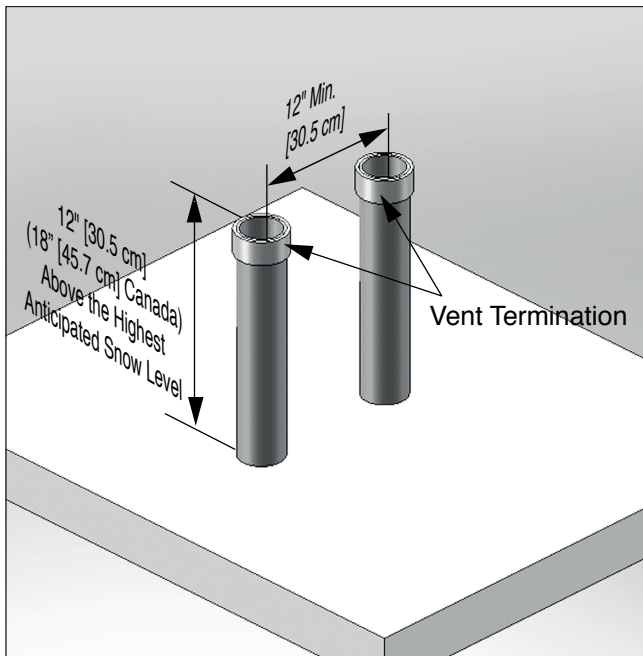
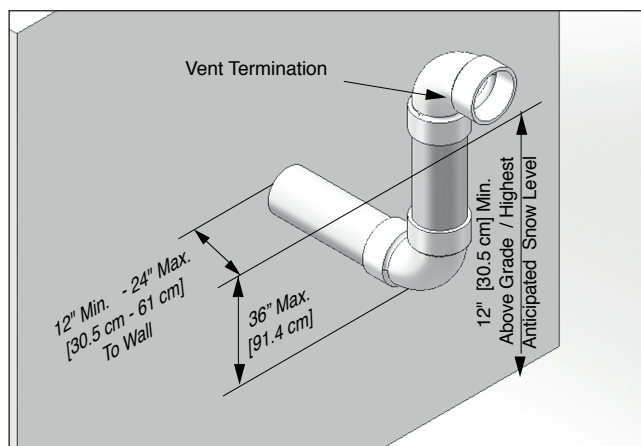

Fig. 17 - Category IV- Vertical Termination of Multiple INSTINCT Boilers
Fig. 19 - Category IV - Sidewall Snorkel Termination of Vent Pipe
2. Each vent termination must be a minimum 12" [30.5 cm] from the adjacent termination for installations in the U.S. as shown in *Fig. 17 below*. For installations in Canada, provide clearances as required by CAN/CSA B149.1.
- Using a 90° elbow as shown in *Fig. 19*.
3. Locate the vent pipe penetration to provide clearances as described in *Fig. 17* and *Fig. 19* on page 27.
- Using a 90° elbow as shown in *Fig. 19* on page 27.
Do not extend the vent pipe outside the sidewall beyond the dimensions shown in *Fig. 17* and *Fig. 19* on page 27. Extended exposure of the vent pipe could cause condensate to freeze and block the vent pipe, resulting in substantial property damage, serious injury, or death.
- *Fig. 19* shows one option for vent terminations of multiple INSTINCT boilers. Either termination option shown in *Fig. 17* or *Fig. 19* on page 27 can be used for multiple INSTINCT boilers. The 12" [30.5 cm] minimum distance between centerlines of the vent piping must be maintained for any chosen option.
- Reference *Fig. 17* and *Fig. 19* on page 27 for vent termination dimensions for each unit installed in a multiple installation.